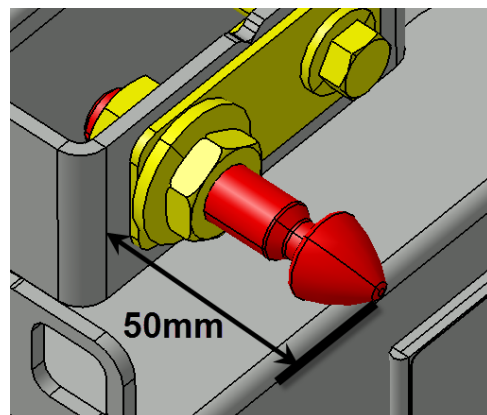

FIGURE 54
11. Before adjusting the pin, make sure that it doesn't exceed more than 2" (50mm) at the first closing of the door (FIGURE 54). Damage to the door can result if this condition is not respected.